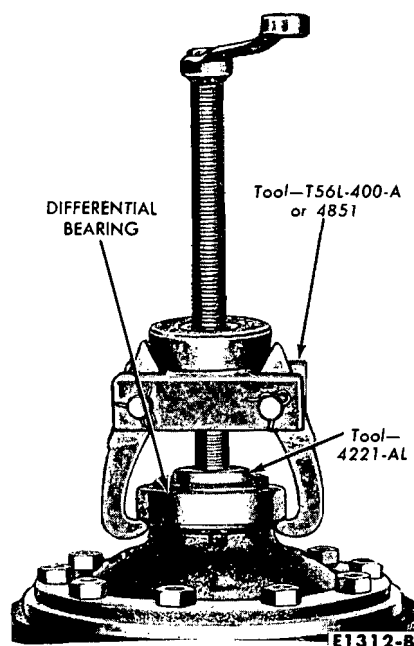

FIG. 19—Differential Bearing Removal
1. If the differential bearings are to be removed, use the tools shown in Fig. 19.